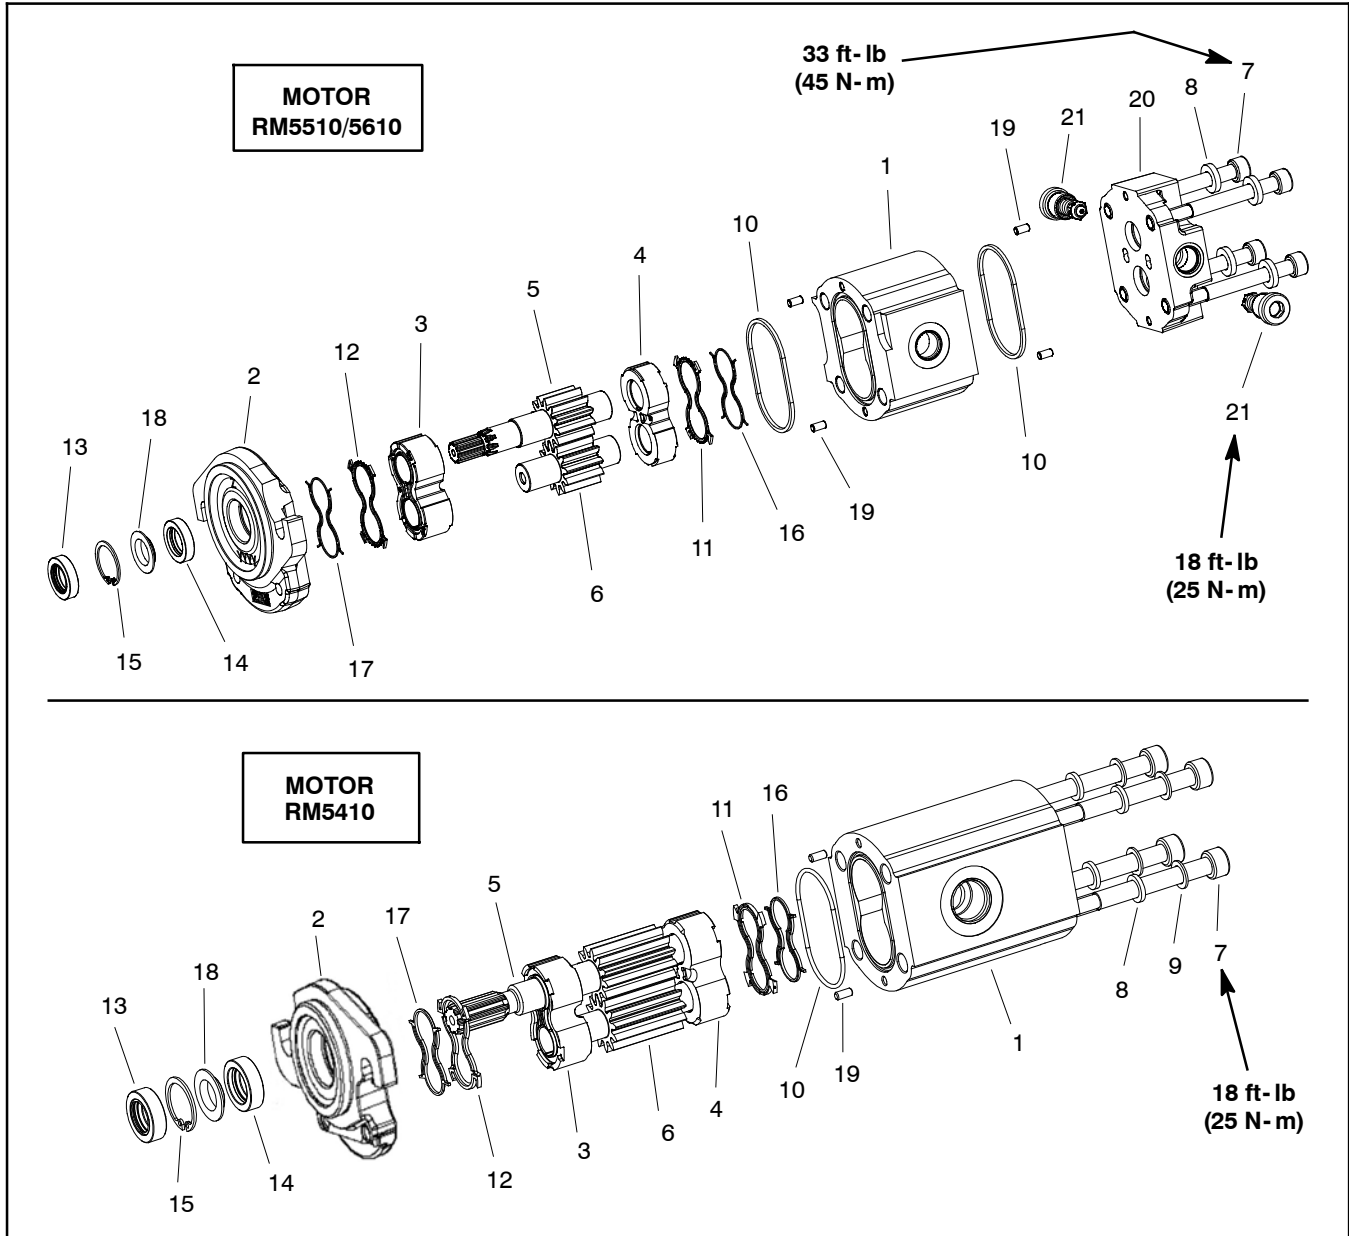

Figure 90
**NOTE:** Casappa cutting reel motors used on Reelmaster 5410 machines are different than Casappa reel motors used on Reelmaster 5510 and 5610 machines. The motors used on Reelmaster 5510 and 5610 machines have a separate rear cover that includes two (2) cross-over relief valves. Both cutting reel motors are shown in Figure 90. The following disassembly, inspection and assembly procedures can be used for either motor.